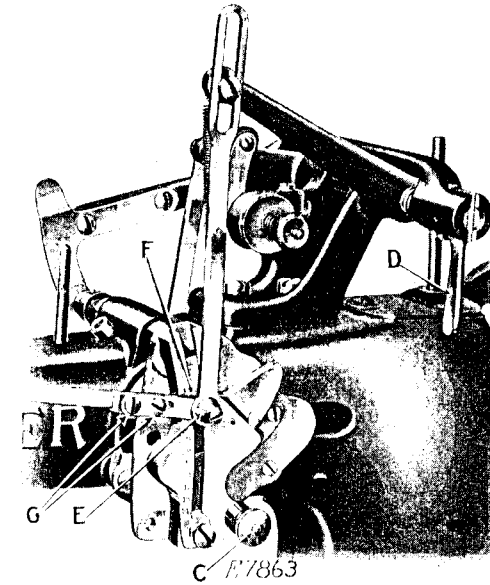

Fig. 9. Machine Adjusted for Making Eyelets
Draw the spring plunger (C, Fig. 9) toward you and move it toward the right as far as it will go, then release it.
See that the lever (D, Fig. 9), is pointing downwardly. Loosen the wing nut (E, Fig. 9) and move it up or down to the desired width of bight, then tighten the wing nut. The machine is now ready for operation.
For practice, place spur plate 234512 and presser foot 234501 in the machine. Loosen the wing nut (E, Fig. 9) and move it downwardly until the indicator (F, Fig. 9) is opposite the line under number 4 on the index, then tighten the wing nut. Make several holes in the piece of goods with punch 234464, using the mallet which is furnished with the machine for the purpose.
The width of bight or extent of the lateral vibrations of the needle for eyelet work is regulated by the sliding block in the slide on the front of the arm of the machine, which can be regulated to make any width of bight up to  $\frac{3}{16}$  inch. To increase the width of bight, loosen the wing nut (E, Fig. 9) and move the sliding block downwardly. To decrease the width of bight, move the sliding block upwardly. When the desired width of bight is obtained, tighten the wing nut (E). When the slide block (F, Fig. 9) is moved downward from zero to 1, the needle will vibrate  $\frac{1}{4}$  inch to the right, and the width of bight will be increased  $\frac{1}{4}$  inch for each additional number.
Loosen the wing nut (E, Fig. 9) and raise it to the top of the slot. When the wing nut (E) is in this position, the needle bar should not vibrate and the point of the needle should enter directly in the centre of the slot in the needle plate. If the needle is at the right or left of the centre, loosen the two screws (G, Fig. 9) and move the needle bar to the right or left, until the needle is central in the slot, then securely tighten the two screws (G).